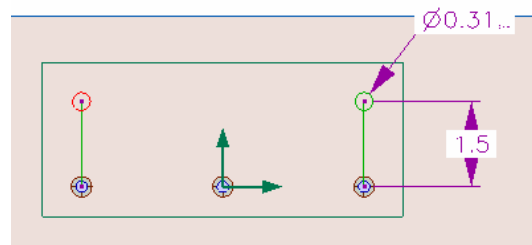

Figure 13. Inserting 5/16" holes.
22. Place two 5/16" (0.3125) holes 1-1/2" above the existing outside holes as in figure 13. Delete unnecessary lines for a valid profile.